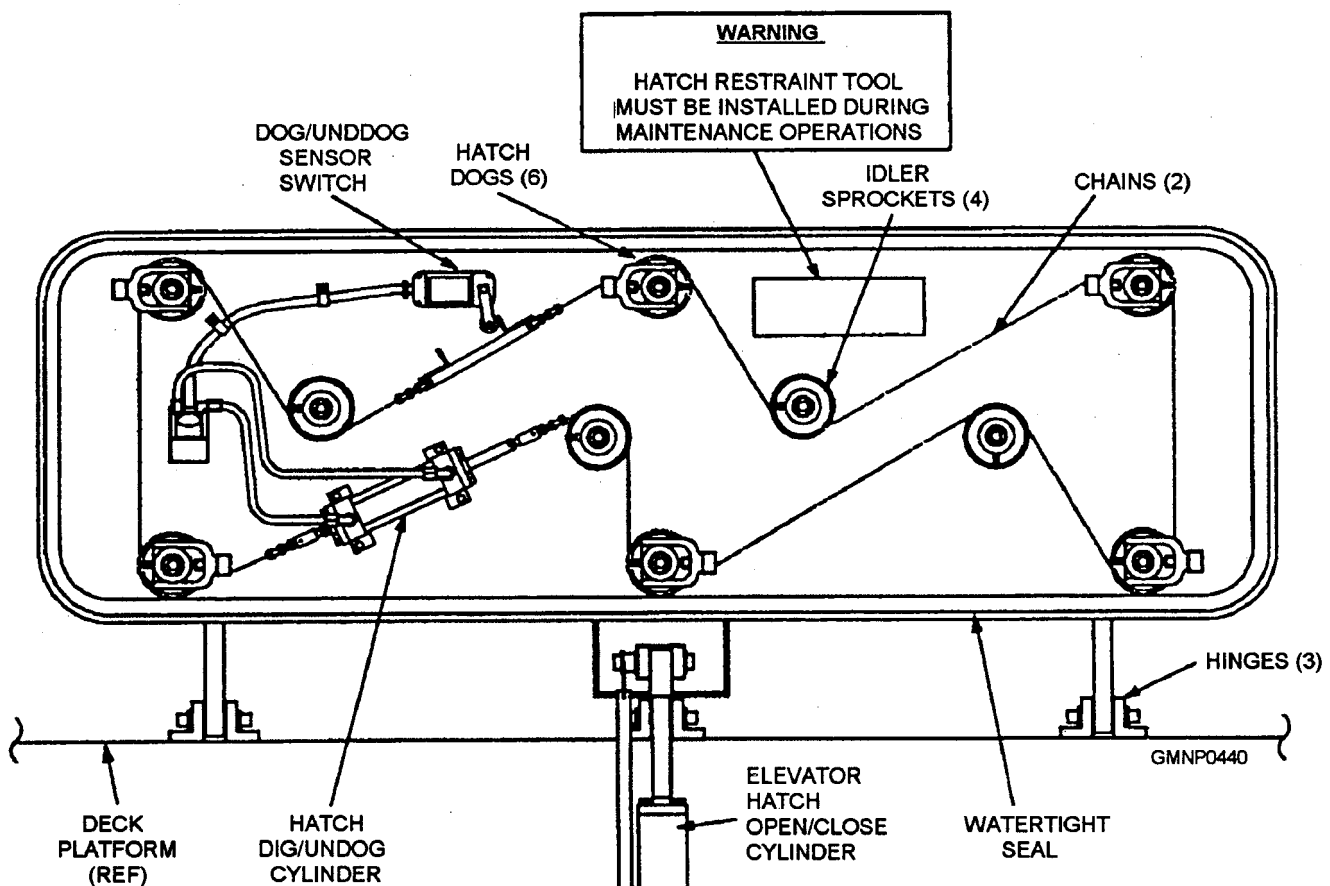

Figure 8-14.—Elevator hatch in OPEN position.
**ELEVATOR HATCH ASSEMBLY.**— The elevator hatch assembly (fig. 8-14) is hinged to the deck platform. This assembly provides weather and ballistic protection for the strikedown crane, elevator, and launcher interior. The hatch is driven open or closed by the elevator hatch cylinder. When closed, the hatch is secured by six hatch dogs. The hatch dogs apply pressure to a watertight seal. The dogs are linked together and actuated by two chains, which are connected to, and operated by, the hatch dog/undog cylinder. Two directional control valves, located below